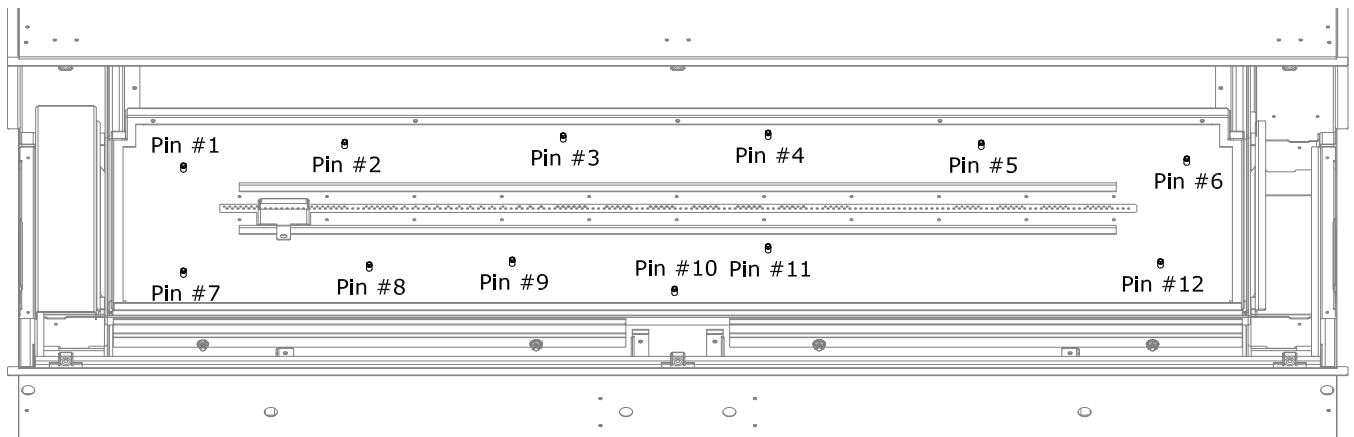

Figure 1 - Log Pin Locations
1. Locate the preinstalled pins on the burner media tray. See Figure 1. You will install the log set directly on the media tray before installing any crushed media.